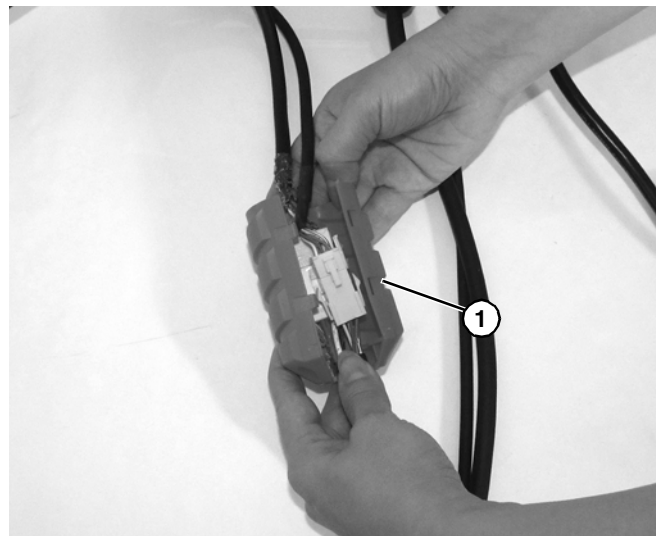

Figure 22
3. Open inner cord cover (**Figure 22, item 1**).